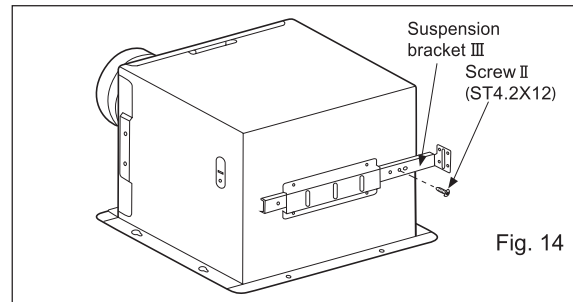

Fig. 14
2. Connect the suspension bracket III to fan body. (Fig. 14) (Select the hole by checking I-joist size and fix the screw to the frame hole.)